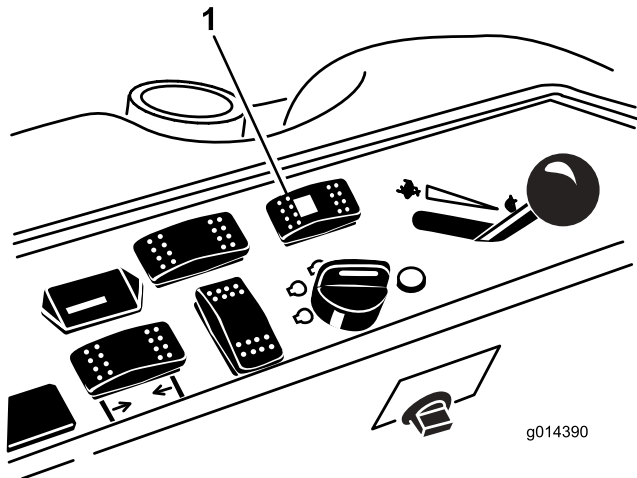

Figure 52
1. Press the steering selector switch to the rearward (four wheels steer) position (Figure 52).